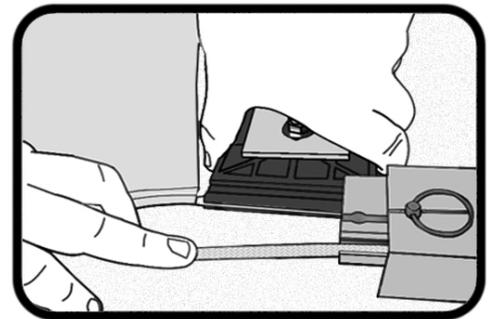

**Fig. 9**
**Step 9:** Press the Rope that extends from the Pool-side channel of the Track into the new Slider. **(Fig. 9 and 10, below)**